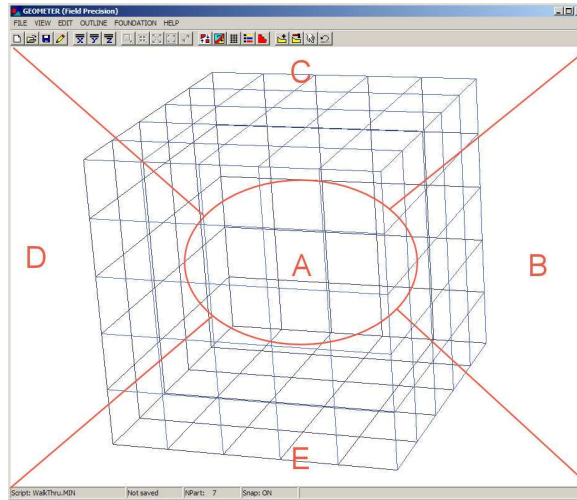

Figure 31: Active areas for mouse control of the 3D view.
The method to control the three-dimensional display with the mouse is identical to that used in **Geometer** and **MetaMesh**. Figure 31 shows the active areas of the screen. The central zone (A) is used for zooming in (left button) and out (right button). Hold down the left mouse button in zones B, C, D and E to walk around the object. Hold down the right mouse button in zones B, C, D and E to move the viewpoint to the right, upward, to the left and downward. Note that changes are reflected in the orientation box in the upper-right portion of the screen. The plot is updated when you release the mouse button. You can control additional aspects of the three-dimensional view with the commands of the *Adjust view* popup menu.